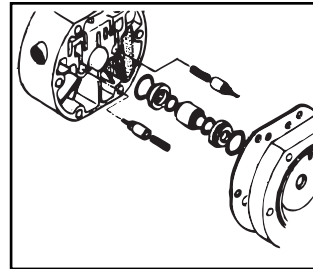

Figure 27-1
- Draw out the pilot valve and valve seat (See Figure 27-1).
Pilot valve assembly (See Figure 27-1,27-2)